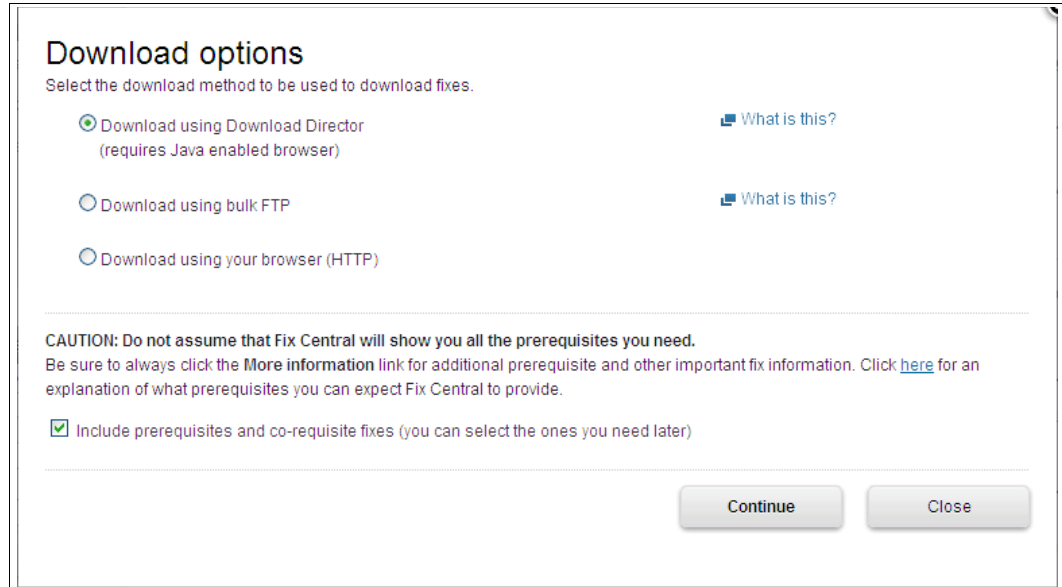

Figure A-12 Download options
5. Figure A-12 shows the different methods that you can use to download the fixes.